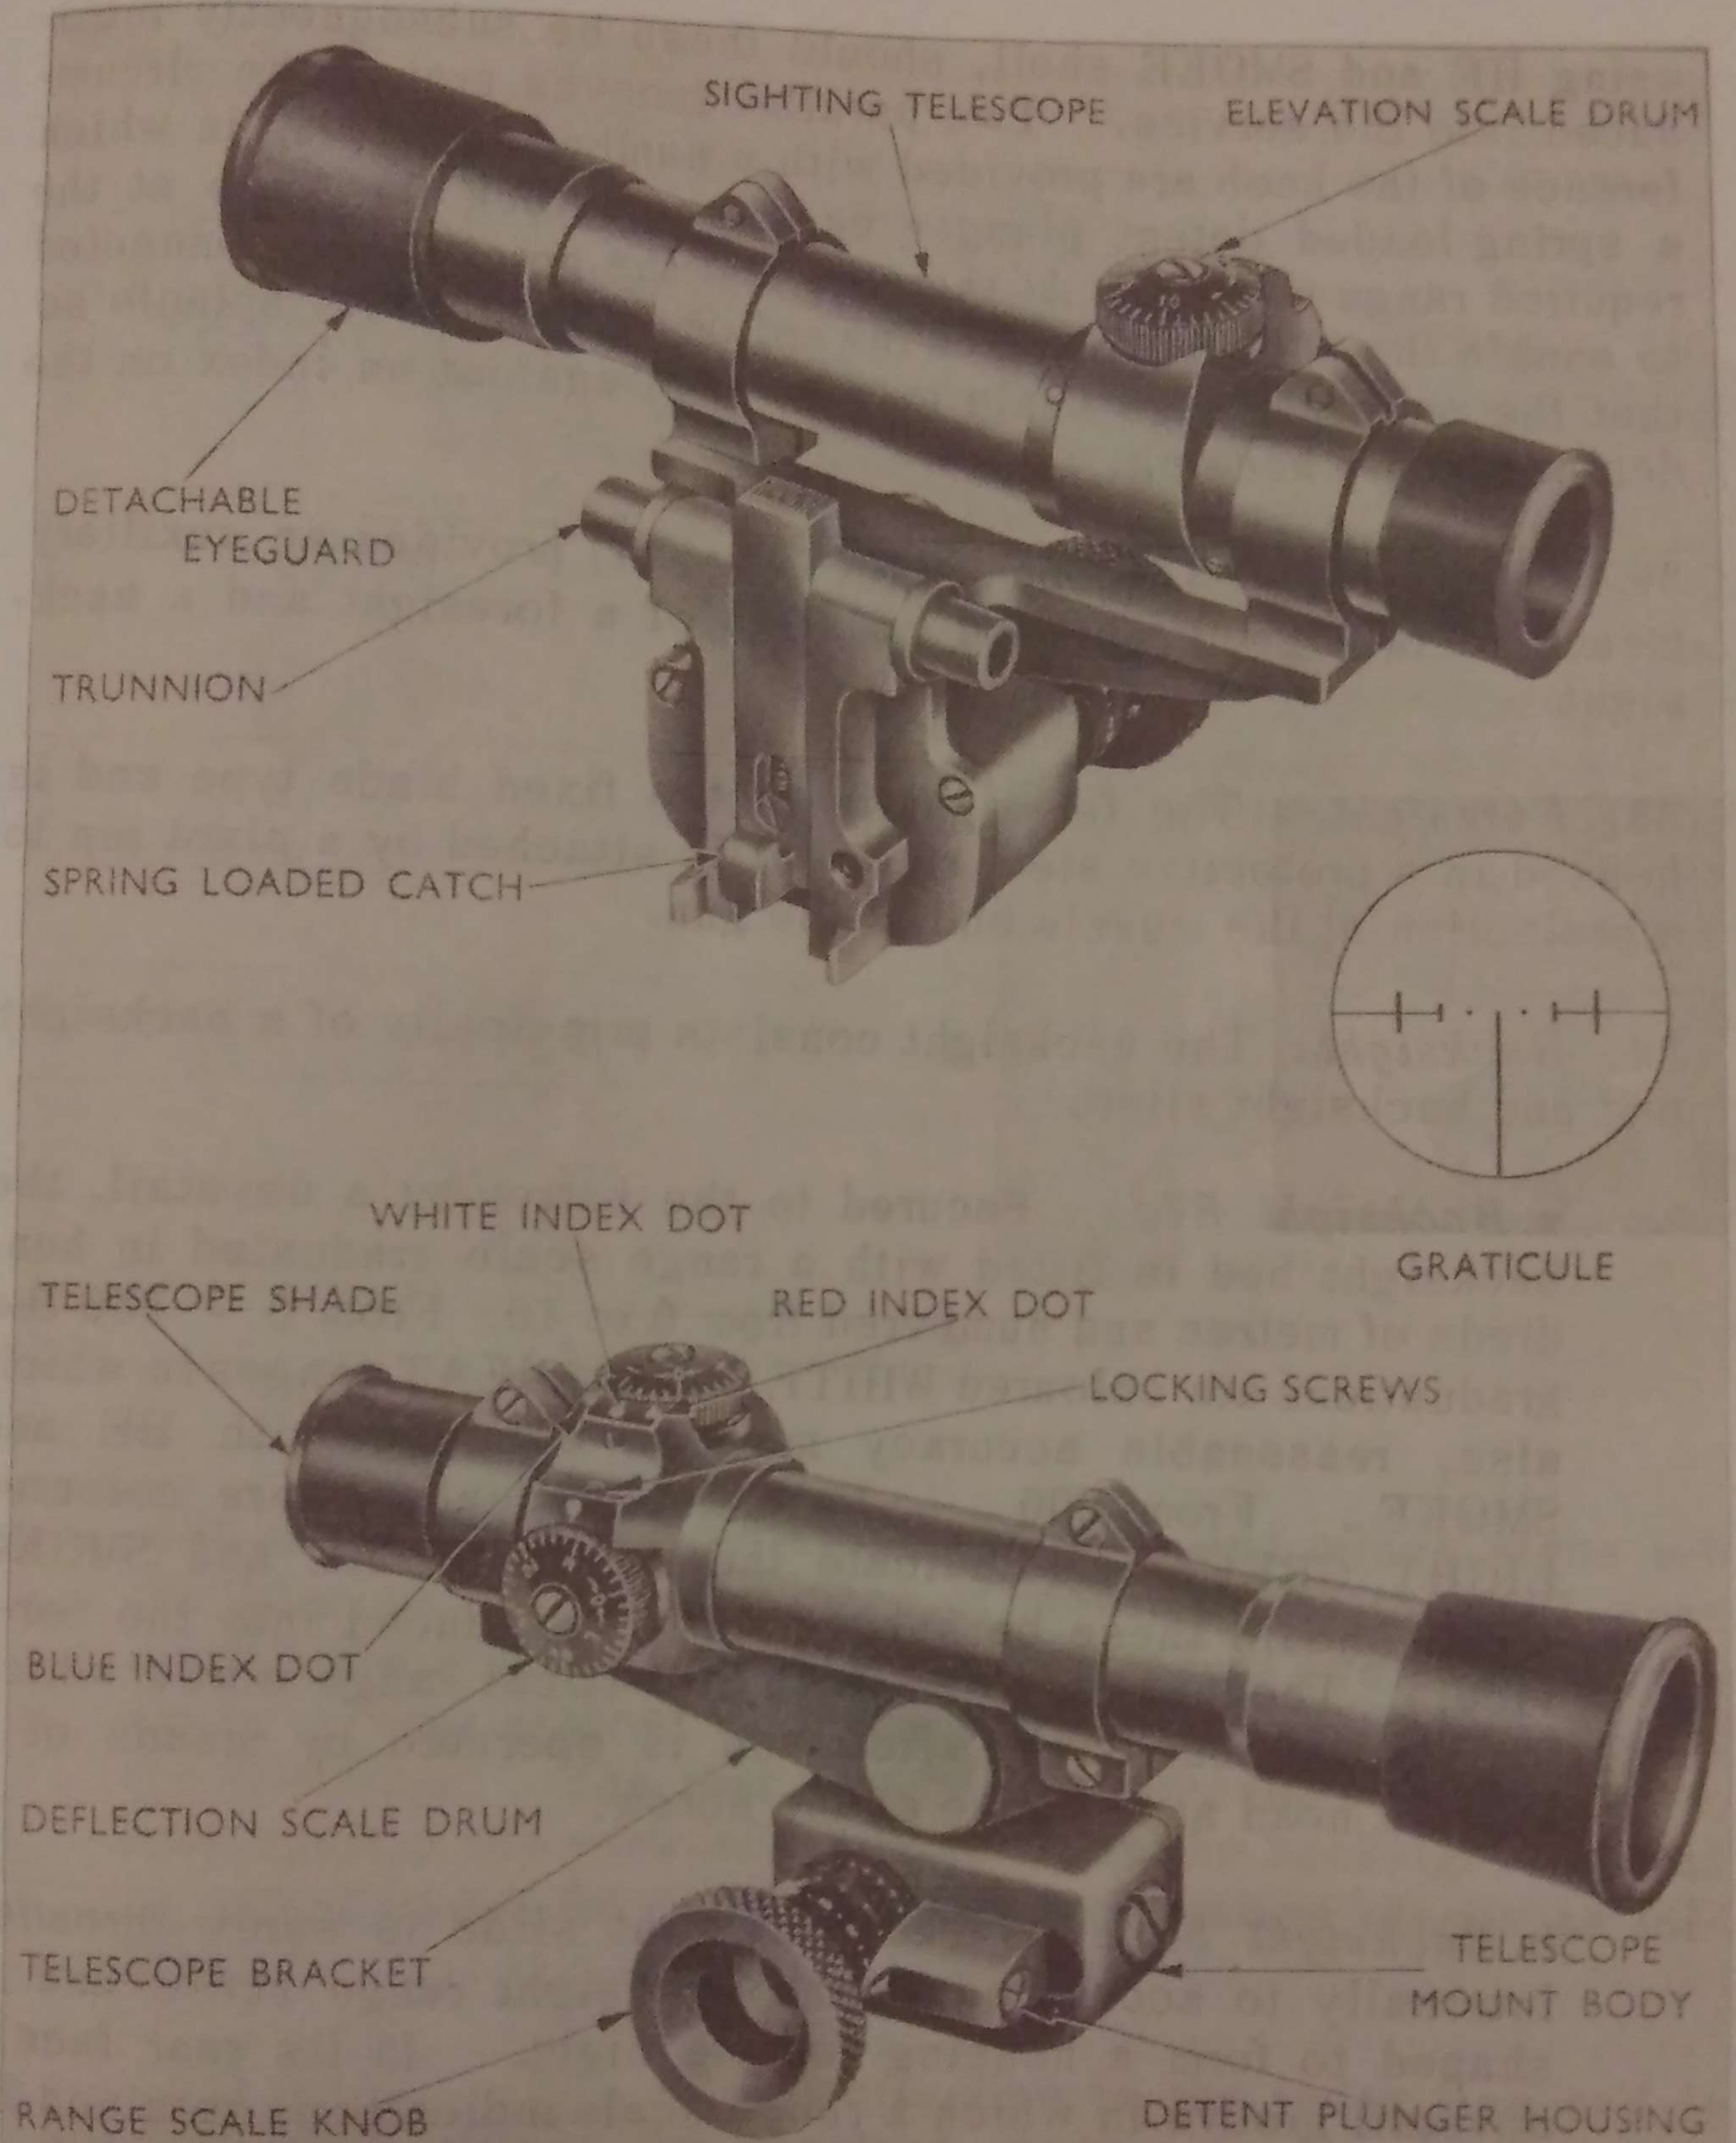

Fig 13 Sightunit
26. *Mk.1 84 mm Gun Sightunit.* The sightunit (Fig 13) is the primary means of laying the gun and consists principally of a Mk.1 No. 78 sighting telescope and telescope mount.
29. The graticule pattern is as shown in Fig 13. The pointer represents zero elevation and zero deflection and is used for sight-setting. The lead marks represent aim off relevant to speed of target, those to the right of the pointer being used for targets crossing from right to left (see Aiming Chart - Annex A). For targets crossing from left to right, lead marks to the left of the pointer must be used.